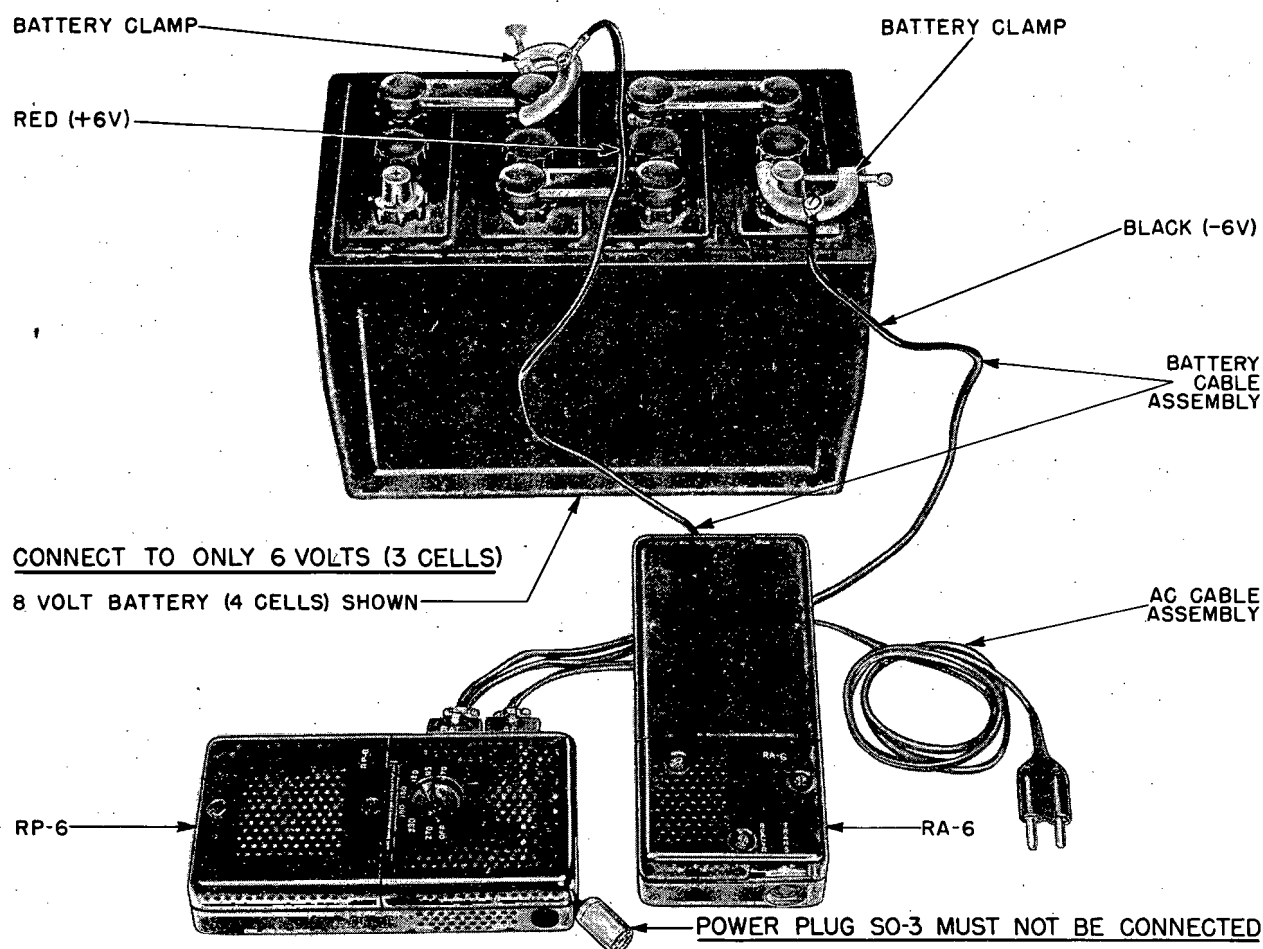

Figure 7. Radio Station RS-6 battery charging hook-up
(1) The charging rate is 3-1/2 amperes minimum.
(2) Battery should be charged only in a well ventilated room as dangerous gases are formed during charging process.
b. Connect equipment as follows: (See Figure 7).